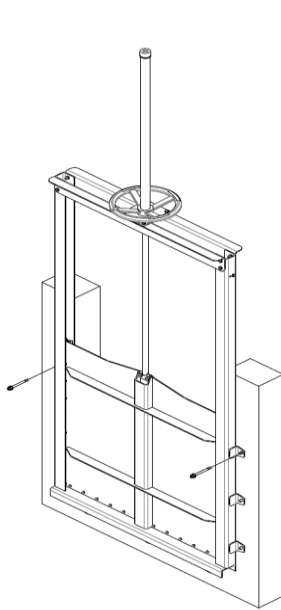

Figure 11
- Drill and install an anchor bolt on each side of the gate. After installing the first anchor bolt, and prior to drilling the hole on the other side, make sure the frame is perfectly leveled (see Figure 11)